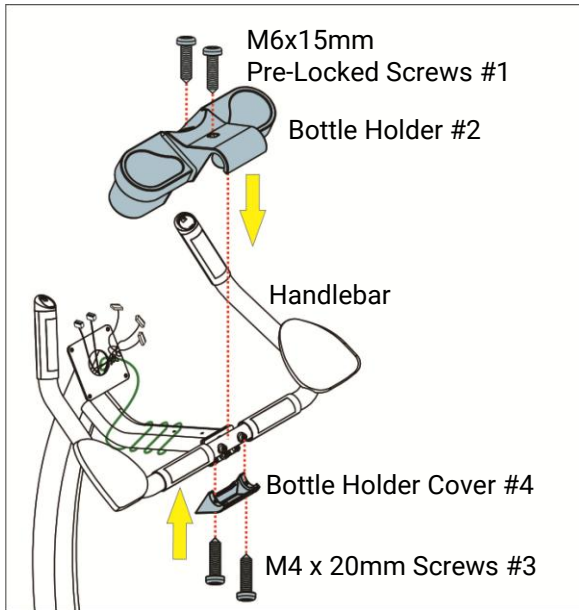

Fig 2.5-8B
- 2) Fix the **Bottle Holder #2** to the handlebar using (2) **M6x15mm Pre-Locked Screws #1** and the provided Allen Wrench (5mm). (Fig 2.5-8B)
- 3) Fix the **Bottle Holder Cover #4** using the (2) **M4 x 20mm Screws #3** and the provided Allen Wrench (5mm) (Fig 2.5-8B)